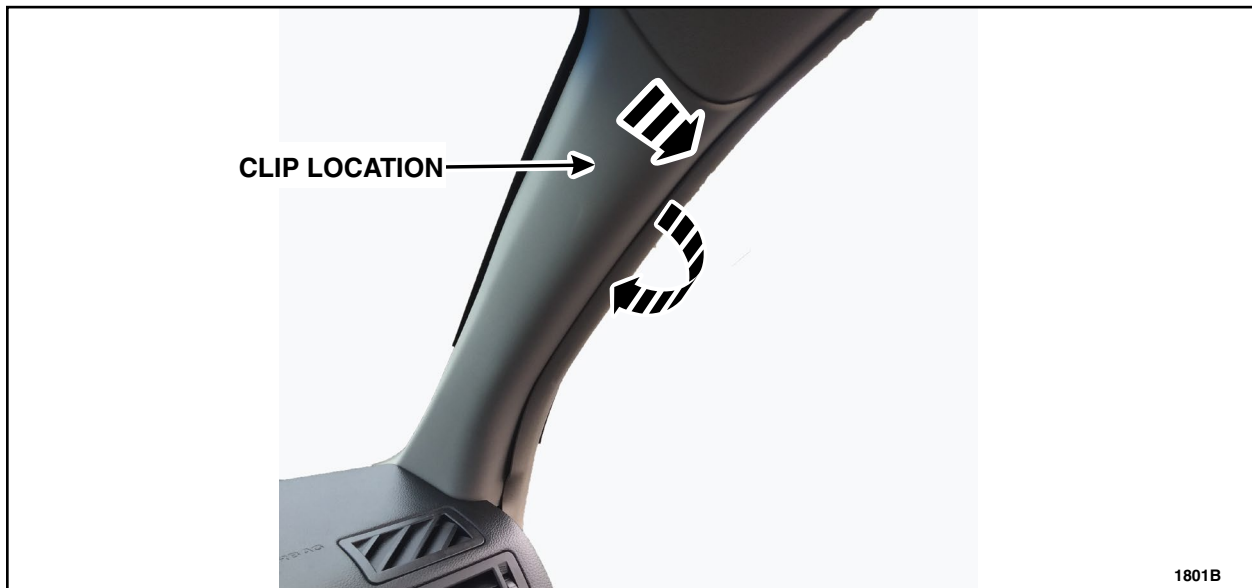

FIGURE 5
2. Remove the left hand and right hand A-Pillar trim panels. Reuse the LH and RH trim panels for this repair. See Figure 5.